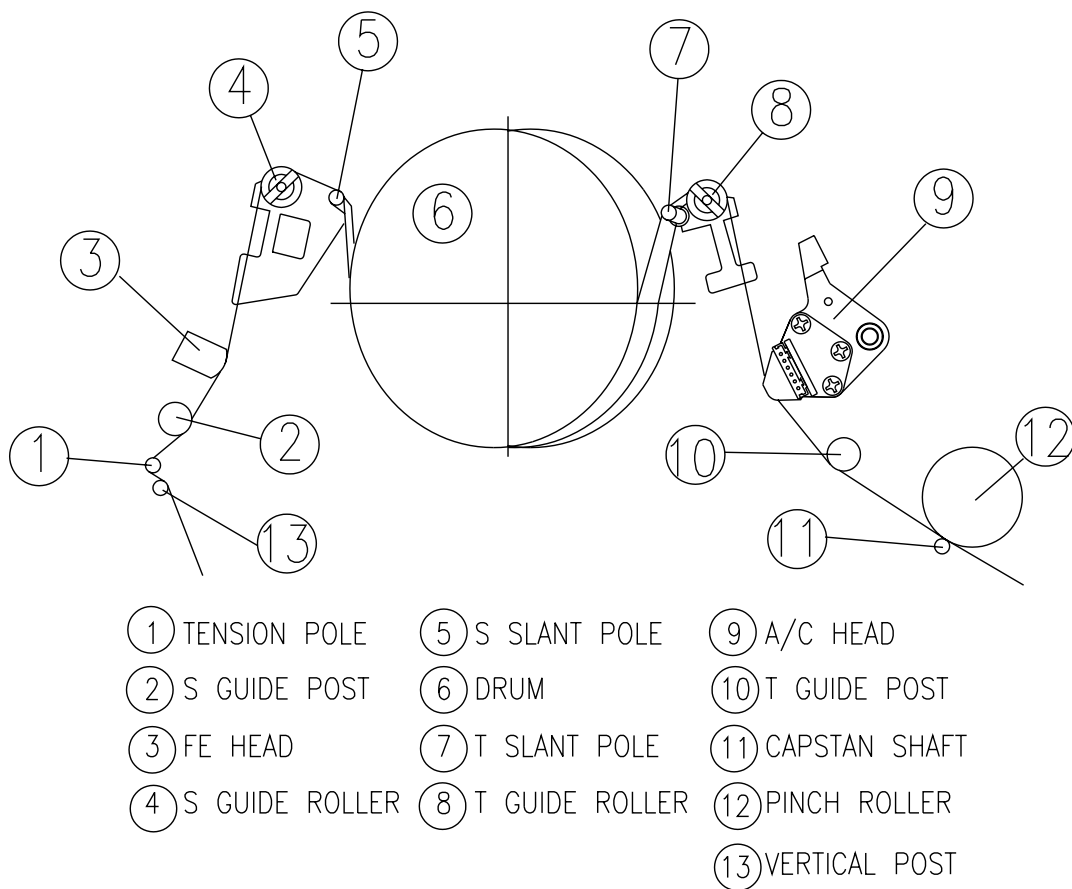

Fig. 5-1 THE SCHEMATIC DIAGRAM OF TAPE TRANSPORTING SYSTEM
When the parts as shown in Fig. 5-1 are replaced, the TAPE TRANSPORTING SYSTEM has changed. To prevent this, it is essential to know thoroughly and observe the following INSTRUCTIONS.
- Play back a T-120 Tape and check the running condition of the TAPE at the lower flanges of the T GUIDE POST ASS'Y in Fig. 5-1.